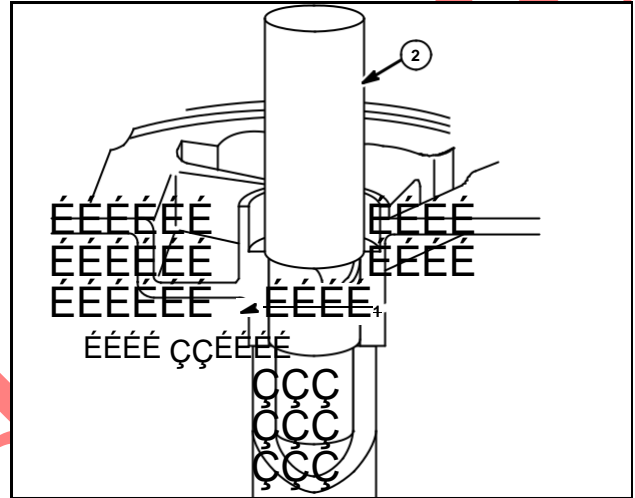

Fig. 14
2. With suitable driver (2), press bearing (1) as shown to dimension shown in TABLE NO. 3. If no dimension is given for Model Series, press bushing until flush with seal surface, Fig. 14.